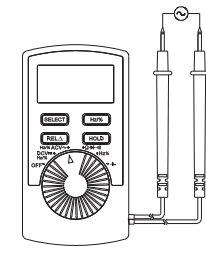

Figure 3
2. Measuring AC Voltage(See Figure 3)